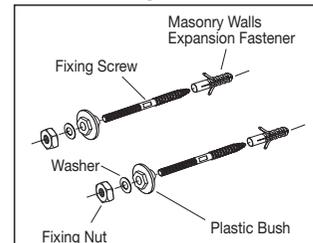

Fig. 3
- 3- Insert expansion fasteners into the drilled holes in masonry wall. The fixing screws should be screwed into the wall using the flat section of the fixing screw with a spanner as shown in **Fig. 3**. Allow 50mm of thread to protrude from the finished wall.